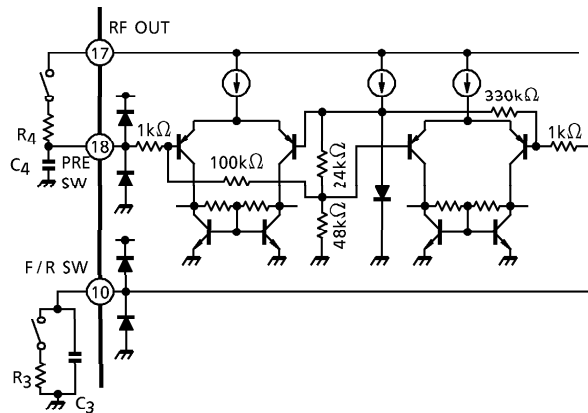

Fig.2 Internal equivalent circuit of F/R SW and PRE SW and the external circuits reducing a pop sound in switchover
(3) F/R SW
The terminal of F/R SW (pin⑩) should not be applied to higher voltage than V_{17} (RF OUT), because the ripple filter circuit supplies the F/R SW circuit with power source. And in reverse mode, the terminal of F/R SW should be connected with GND line through R_3 (180~270k Ω), because the F/R SW circuit doesn't operate normally. It is advised to connect an external capacitor ($C_3 \cong 1\mu F$), in order to reduce a pop sound in switchover between F/R mode (see Fig.2). As for the constants, select the optimum one depending on each a set carefully.
It is advised to connect a external resistor ($R_4 = 100 \sim 330k\Omega$) and capacitor ($C_4 \doteq 1\mu F$), in order to reduce a pop sound in switchover between PRE SW on/off mode (see Fig.2). As for the constants, select the optimum one depending on each a set carefully.